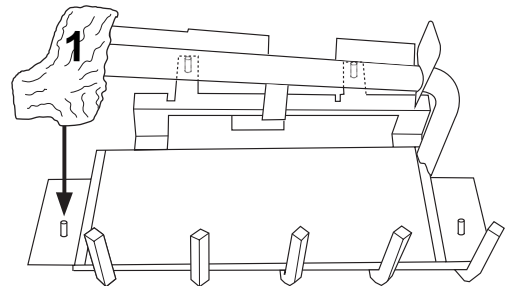

Figure 44 - Installing Log No. 1
1. Place log #1 (base log) onto pin on left front side of grate as shown in Figure 44.